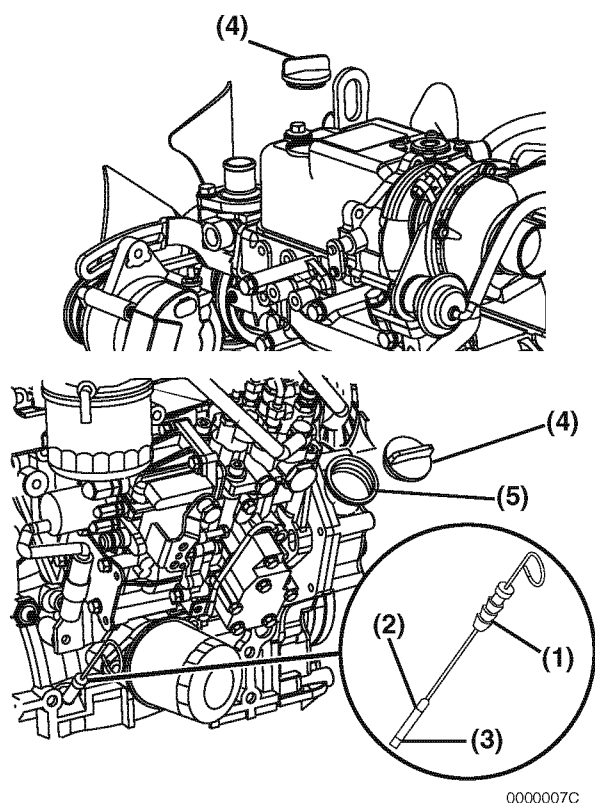

Figure 4-6
2. Remove the dipstick (**Figure 4-6, (1)**) and wipe it with clean cloth.
4. Remove the dipstick. The oil level should be between the upper (**Figure 4-6, (2)**) and lower (**Figure 4-6, (3)**) lines on the dipstick.
2. Remove the oil cap (**Figure 4-6, (4)**).
3. Add the indicated amount of engine oil at the top or the side engine oil filler port (**Figure 4-6, (5)**).
6. Reinstall the oil cap (**Figure 4-6, (4)**) and hand-tighten. Over-tightening may damage the cap.